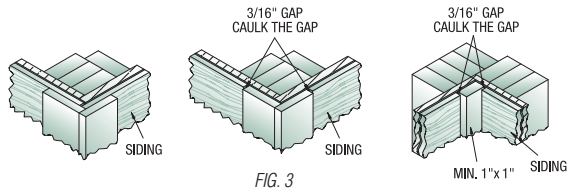

FIG. 3
- Gap the siding at all corners 3/16" and caulk. *See Fig 3.*
- When butting siding to inside or outside corners, use a minimum 4/4" thick (nominal) dry wood material. TruWood Trim is recommended. *See Fig. 3.*